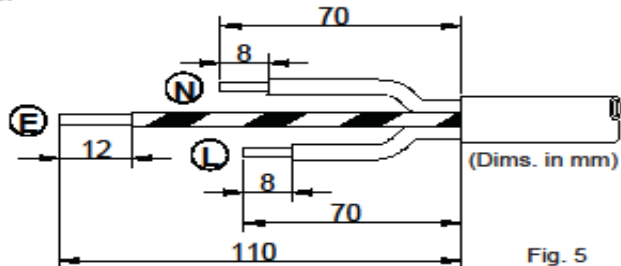

Fig. 5
2. Strip and prepare the cable sheath and insulators as shown in Fig. 5.